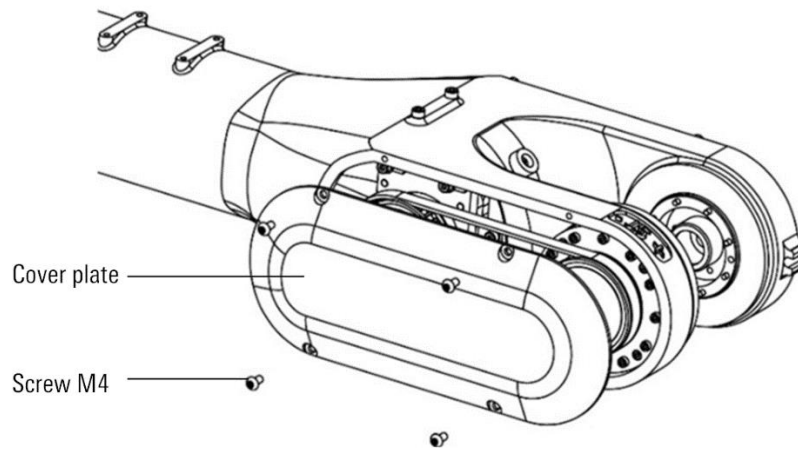

Figure 12-9 Remove the cover plate
Step3. Remove the manipulator cover plate and four M4 screws, as shown in Figure 12-9.